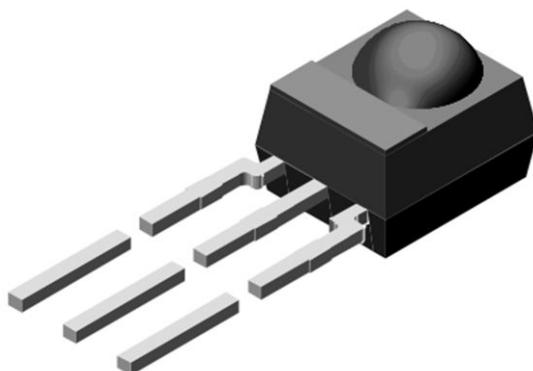

Figure 11-1. Infrared Decoder Module
- The TV remote control sketch requires an infrared decoder module. TSOP4838 (or the equivalent PNA4602) modules (Figure 11-1) have power and signal pins oriented to enable them to plug directly into the socket on the motor shield.